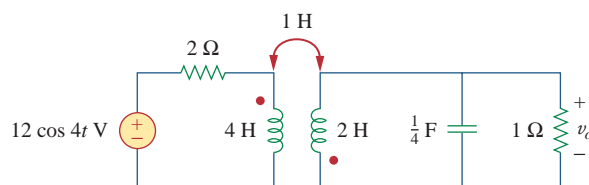

Figure 13.93
- 13.24** In the circuit of Fig. 13.93, (a) find the coupling coefficient, (b) calculate v_o , (c) determine the energy stored in the coupled inductors at $t = 2$ s.